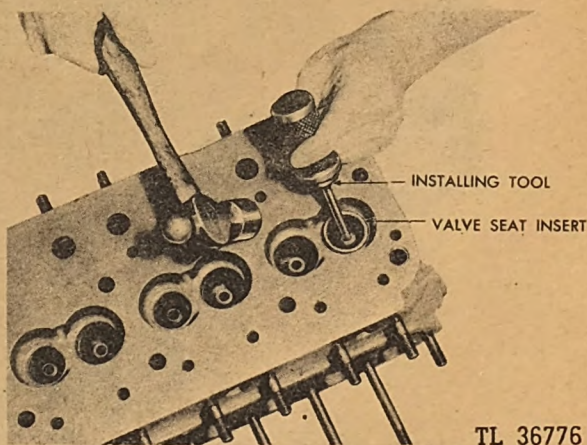
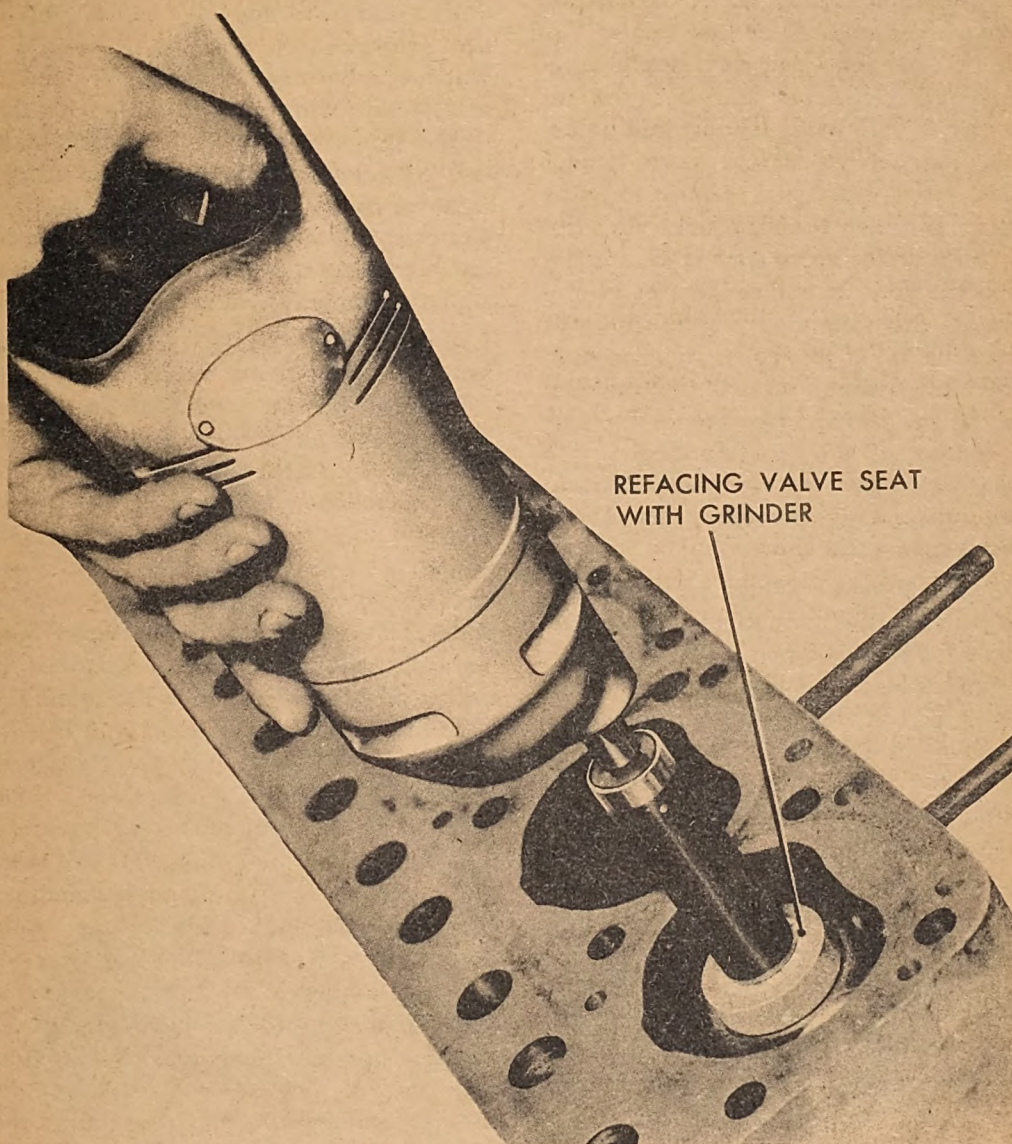

Fig. 124. Installing Exhaust Valve Seat Insert
Fig. 125. Refacing Valve Seat
e. *Checking Valve Seats and Valve Guides.* Inspect the exhaust and intake valve seats for burns, cracks, or pits. The exhaust valve seats can be replaced. The intake valve seats can be refinished with a valve seat refacer or grinder as shown in Figure 125. Check the valve guides for wear by inserting a valve and noting the amount of side play; maximum allowable clearance, intake to guide, .0055 inch; exhaust to guide, .0055 inch. If worn, remove the guide by driving it from the head with a driver. Press in new guides with an arbor press or drive in with a suitable driver. Ream guide so that clearance between new valve and guide will be between .002 inch—.0035 inch intake, .002 inch—.0035 inch exhaust.
in Figure 124. Refinish the valve seat with a grinder. The same grinder can be used on the intake valve seat. (See Figure 125.)
In hot climate, let the cylinder head stand in the sun until it gets as hot as the sun can heat it. Cool the valve seat insert as much as possible. Then drive the insert into the block as shown in Figure 124.
the cylinder head sufficiently. With the water still in the cylinder head to retain as much heat as possible, drive the valve seat insert in place as shown in Figure 124.